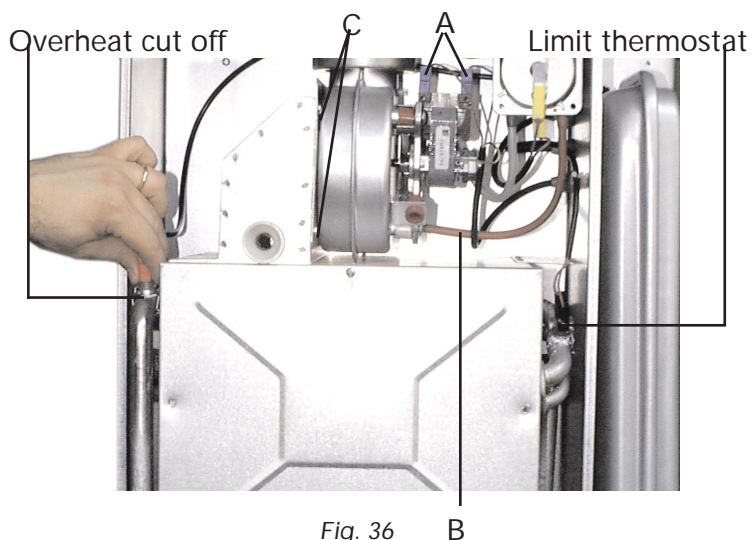

Fig. 36
7.10 Removal of fan (fig. 36)
7.11 Limit thermostat, or overheat cut off thermostat (fig. 36)